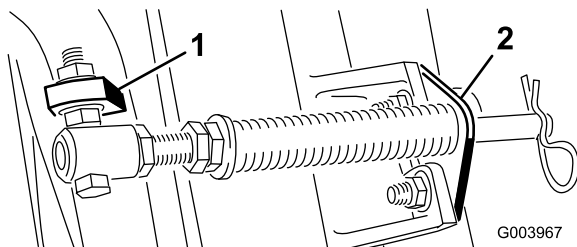
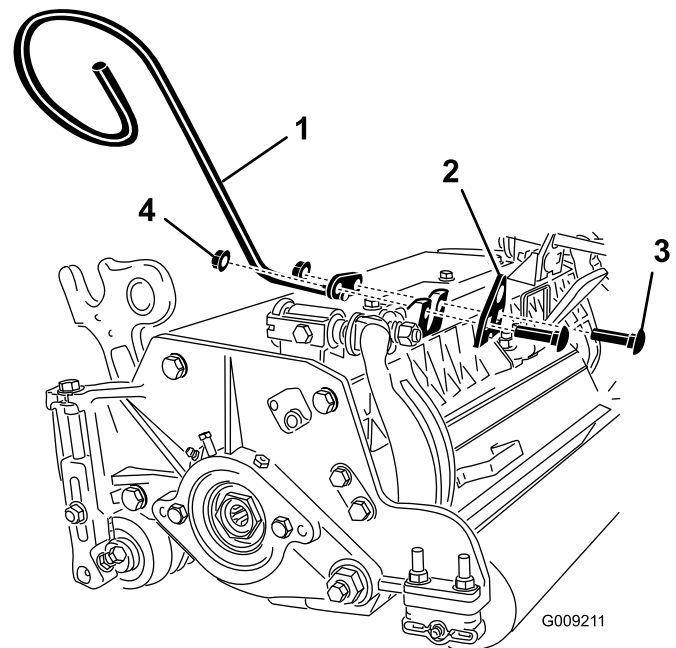

Figure 2
Figure 3
- C. Mount the spring tube capscrew to the opposite tab on the carrier frame and secure with the flange nut. The capscrew head is to be positioned to the outer side of the tab as shown in Figure 2.
- D. Mount the rod bracket to the rear of the cutting unit tabs with the carriage bolts and nuts (Figure 2). Also, on the #4 cutting unit, mount the left hand hose guide to the front of the cutting unit tabs when reinstalling the rod bracket (Figure 3).